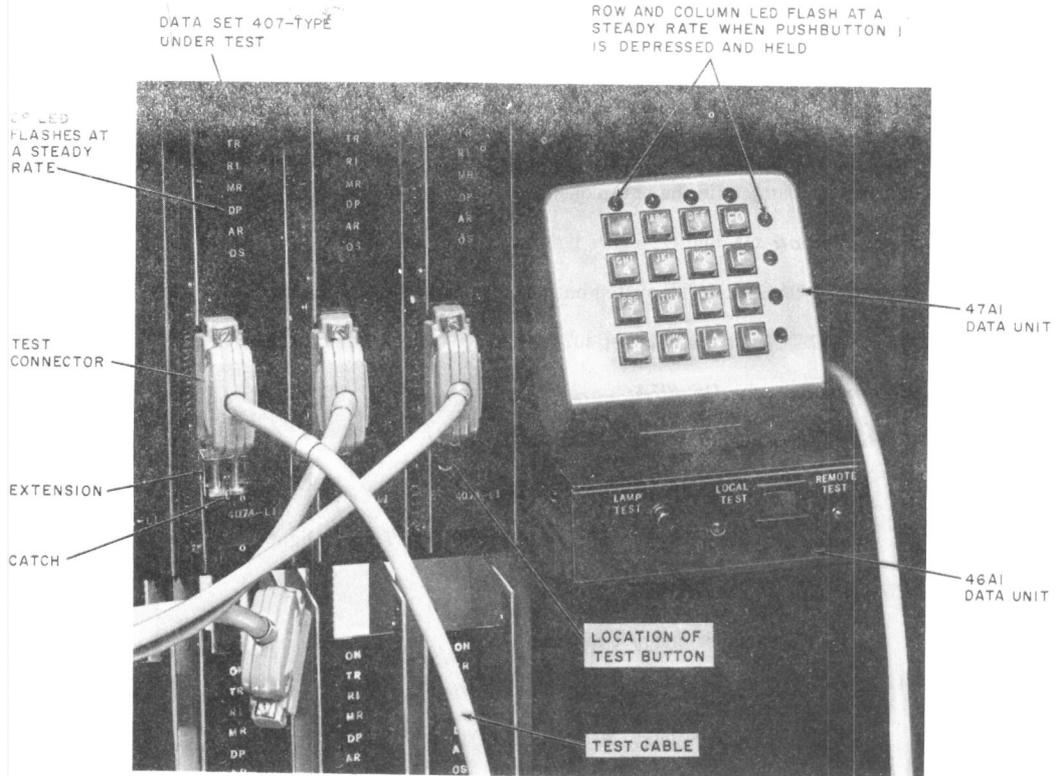

Fig. 1—Data Set 407-Type Test Arrangement—Typical
**1.06** When a data set is placed in the remote test mode, the data set is connected to a service line and then tested by the data test center. The local test may be conducted by the customer or telephone company (telco) employee using the test unit. A typical test arrangement is shown in Fig. 1.
Requirement: Associated row and column LEDs (on the 47A1 data unit) and DP LED (on the data set) flash at a steady rate (10 pulses per second). Refer to Fig. 1 for an example of which LEDs are flashing on the 47A1 data unit when pushbutton 1 is depressed.